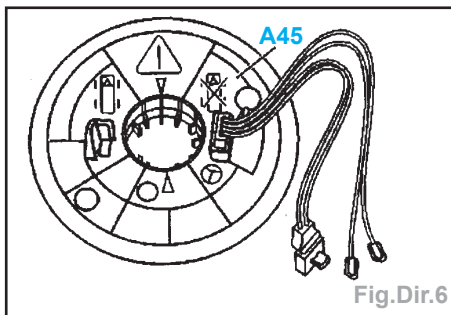

Fig.Dir.6
- 1^{ère} version de spirale (Fig.Dir.6),